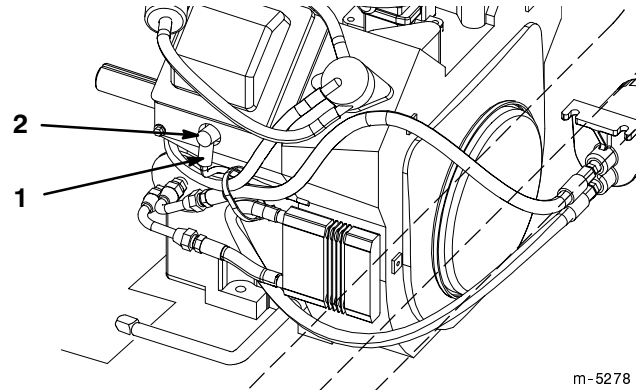

Figure 61
2. Pull the wire(s) off the spark plug(s) (Fig. 61). Now clean around the spark plug(s) to prevent dirt from falling into the engine and potentially causing damage.
3. Push the wire(s) onto the spark plug(s) (Fig. 61).